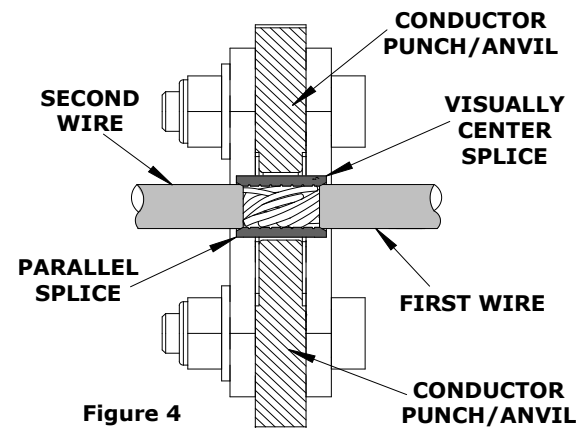

Figure 4
6. When crimping parallel splices, insert the first wire into one end of splice, and then insert the second wire into the opposite end of the parallel splice. This procedure will crimp both wires at the same time. Make sure the wires are fully seated into the parallel splice. Position the splice and the wires in proper nest with the conductor crimp on the conductor barrel of the splice. The splice should be approximately centered inside the tooling nests. See Figure 4. Cycle the tool.